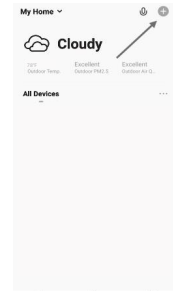

Fig.1
- Confirm that your phone is connected to Wi-Fi (2.4GHz networks only, 5GHz will not work). Tap the “+” at the top-right corner of the homepage, to enter the device selection page. (Fig. 1)